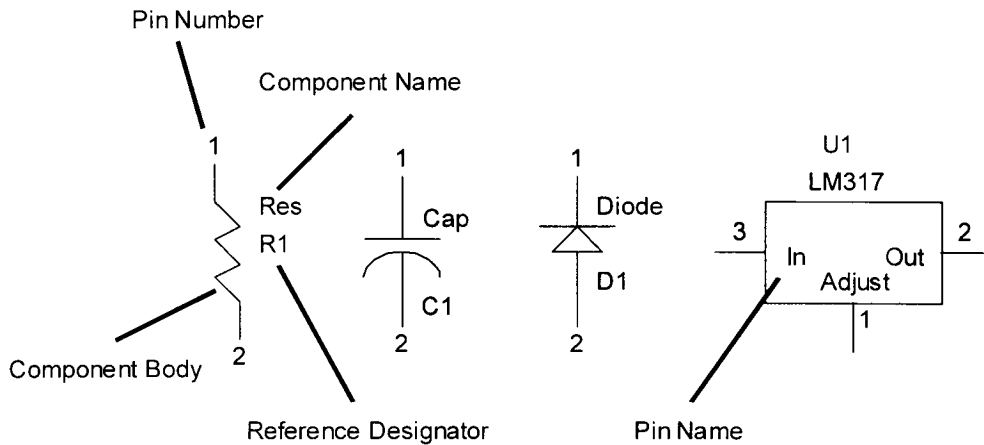

Figure 1-1: Examples of different schematic symbols
- 1) Each symbol contains a graphic, or drawing, that represents the part or its function. The graphic is usually referred to as a *component body*. In the examples shown in Figure 1-1 the graphics show a resistor, a capacitor, a diode, and an integrated circuit.